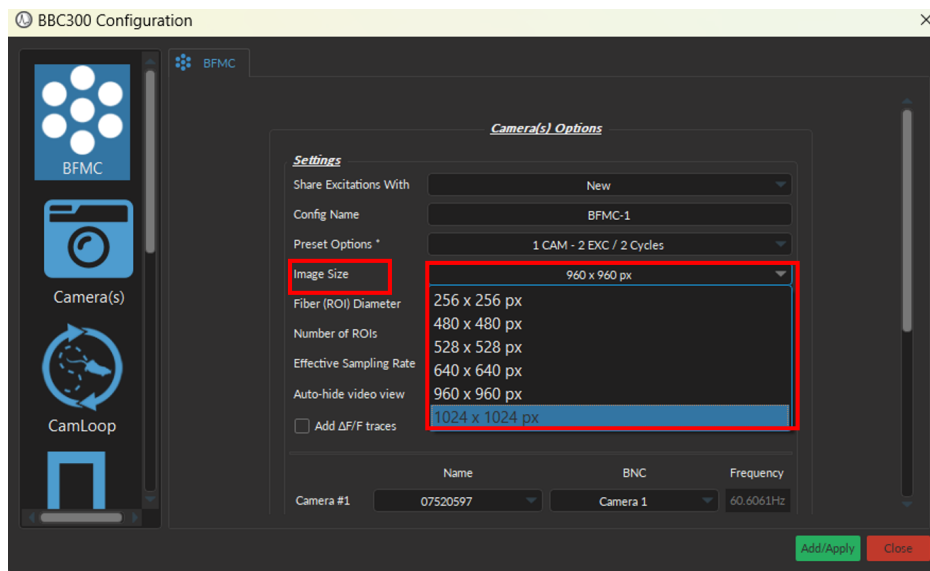

Figure 1.6: Add Channel
6. Next step is to choose the **Image Size**, which changes the FOV of the camera (zoom in/out). When imaging more fibers, a larger FOV is necessary to ensure all ROIs can be imaged in one frame (Fig. 1.6).